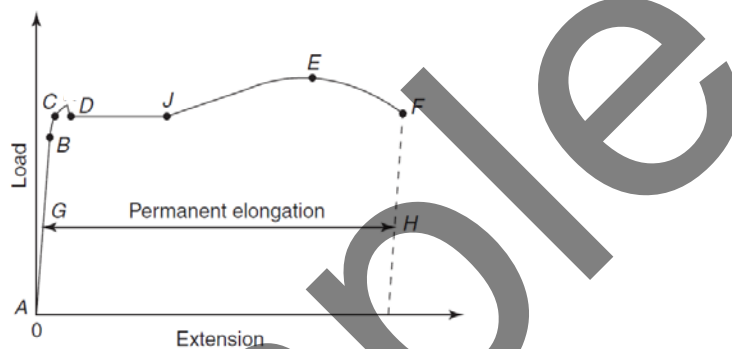

Fig.1.1: A tensile test of mild steel
Fig. 1.1 shows a tensile test of mild steel; the graph can be broken down into ten important sections:
- Material C is a ductile material, similar to the mild steel used in Fig.1.1.